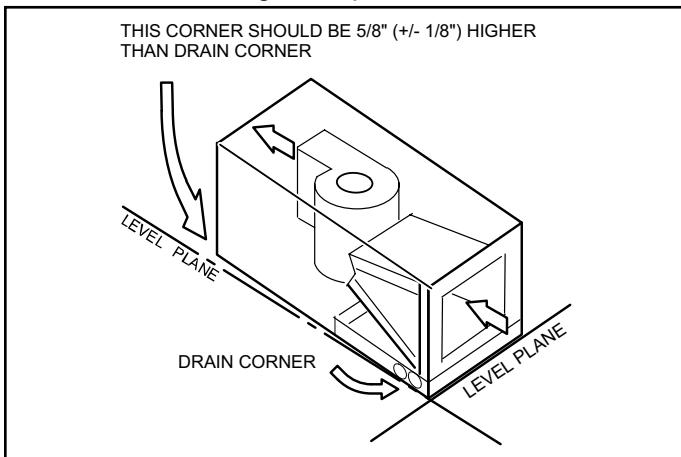

Figure 15. Sloping the Unit for Proper Drainage
3. Set unit so that it is sloped toward the upflow drain pan end of the unit and level from front to back of unit (see Figure 15).
Make sure the unit is sloped (similar to the slope shown in Figure 15) so that the drain pan will empty completely without water standing in the pan.